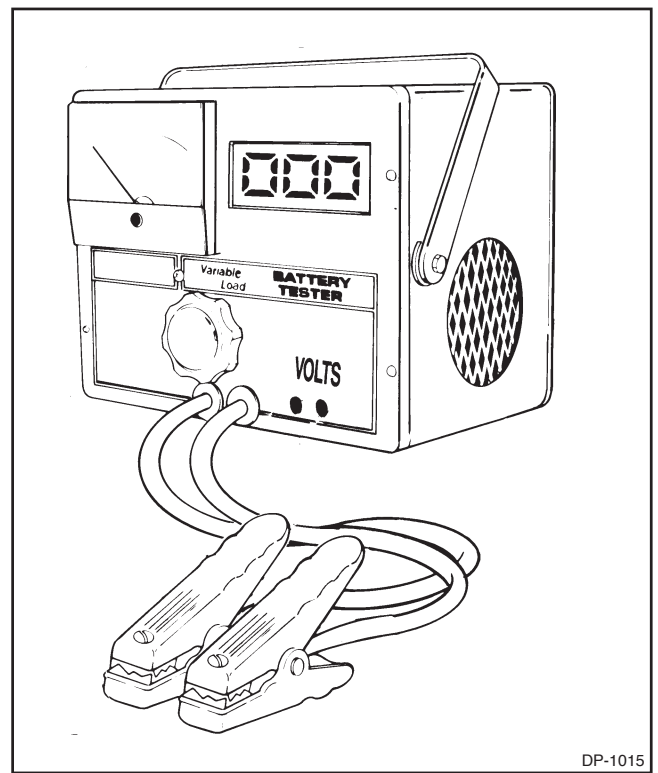

Figure 1-15. Carbon Pile
**1-24. APPLYING AN ELECTRICAL LOAD WITH A CARBON PILE.** (See Figure 1-15) The carbon pile is a variable resistor designed to carry high current. A carbon pile, along with a voltmeter and ammeter, is normally an integral part of a modern battery tester. In addition to load testing batteries, carbon piles are used to test starter and alternator circuits.